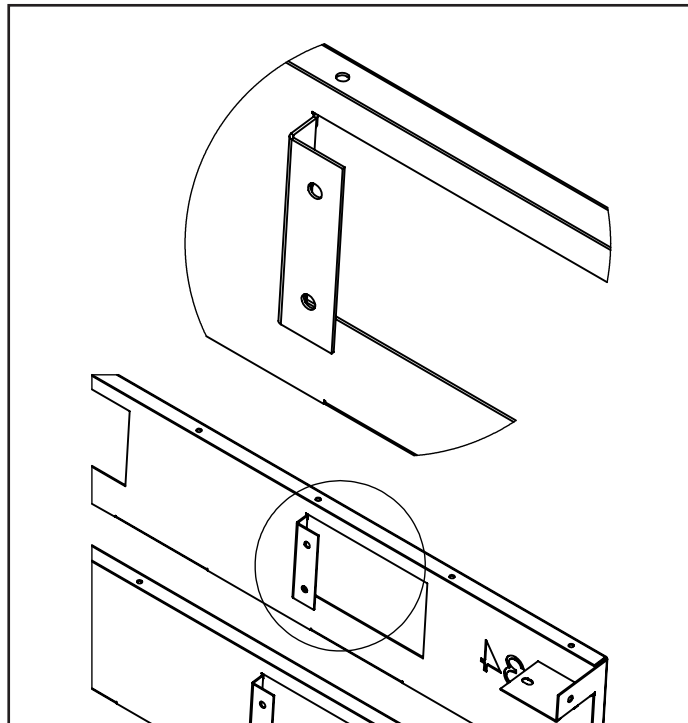

Figure 22. Rear Panel hand bent flanges
Step 4: All the middle flanges must be bent 90deg inwards towards the unit as shown below in figure 22.